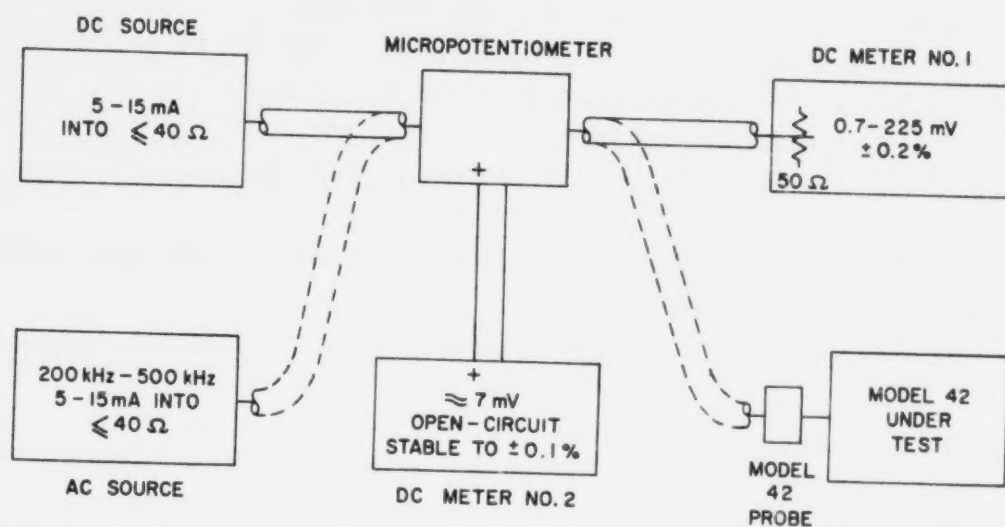
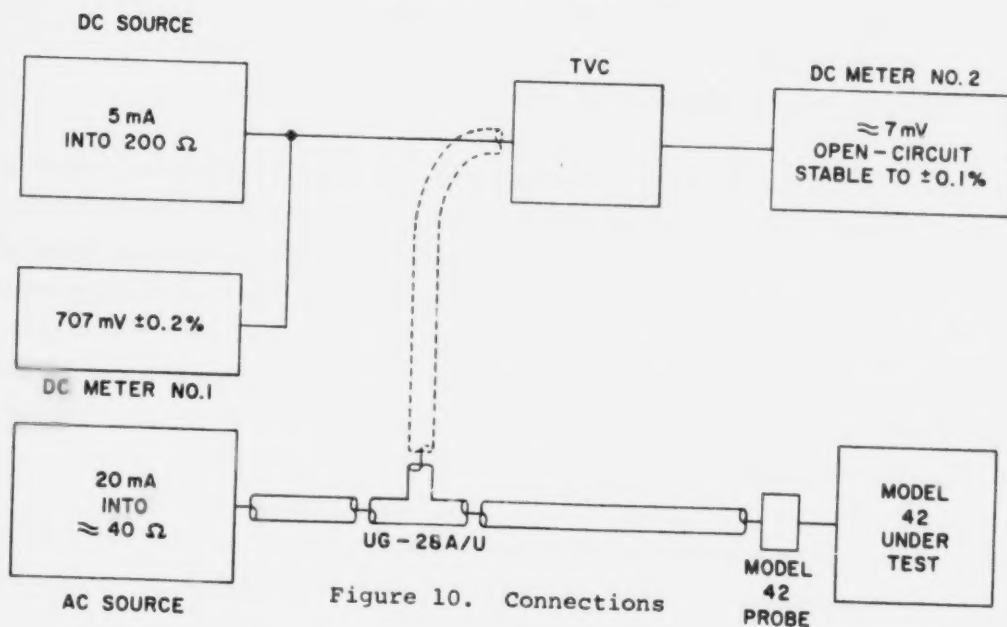

Figure 9. Connections
Figure 10. Connections
Because of the outstanding low-frequency response of the instrument (200 kHz as opposed to the usual 10 MHz of competitive instruments) it is convenient to check the performance by using voltage sources in the frequency range of 200 kHz to 1 MHz. In this range, there are commercial sources and reference standards available with the required accuracy. Figure 9 shows the suggested equipment and connections to check all ranges of the instrument, except the +10 dBm range; Figure 10 shows the suggested equipment and connections to check the +10 dBm range.
NOTE: The Boonton Model 25A Power Meter Calibrator can be substituted for the equipment shown in figures 9 and 10. This calibrator provides 1 MHz power levels from -69 to +20 dBm in 1 dB steps with 0.05 dB uncertainty. If the Model 25A Calibrator is used, disregard all references in paragraphs 5.4 and 5.5 to equivalent voltage levels; merely refer to specified power levels which then can be switch-selected on the Model 25A.
Each range is checked by connecting the Model 440 micropotentiometer (using the appropriate thermocouple and radial resistor) to the dc power source and dc meter No. 1 (Figure 9) and adjusting the dc power source until the dc meter No. 1 reads the voltage equivalent to the full-scale power for that range (refer to Table 2). Record the dc meter No. 1 reading. Now connect the micropotentiometer to the ac power source and the Model 42BD under test. Adjust the ac power source until the dc meter No. 2 indicates the same value as recorded for the dc meter No. 1. The RMS output voltage of the micropotentiometer is now equivalent to the recorded dc voltage. The Model 42BD should now read full scale within the specified tolerance ($\pm 5\%$ for the PWR mode; ± 0.2 dBm for the dBm mode). Perform the steps listed in Table 2 to check performance.
- a. Connect the instrument to test set-up as shown in Figure 10. Depress the 10 mW button of the FULL SCALE range selection.
- c. Connect the ac source to the ac source tee (UG-28A/U) as in Figure 10.
- a. Connect the instrument in a test set-up as shown in Figure 10. Depress the 10 mW button of the FULL SCALE range selector and inject an input of 707.1 mV.
- c. Remove the instrument from the Figure 10 test set-up and connect it to a test set-up as shown in Figure 9. Depress the 100 nW button of the FULL SCALE range selector and set the OFF/PWR/dBm switch to PWR.
- a. Connect the instrument to a test set-up as shown in Figure 9, depress the 1 mW button of the FULL SCALE range selector and inject an input of 223.6 mV (refer to Table 2, step 6).
- a. Connect the instrument in a test set-up as shown in Figure 9. Depress the 1 mW button of the FULL SCALE range selector, and inject an input of 223.6 mV (refer to Table 2, step 6).
Center the CAL FACTOR control knob on the shaft so that the pointer swings an equal amount past the scale end points on each end of the rotation. Depress the 1 μ W button of the FULL SCALE range selector, and set the CAL FACTOR control to -1 dBm. Using the ac source (Figure 9), adjust the input level until a display of 0.631 μ W or -32.00 dBm is obtained. Rotate the CAL FACTOR control to the +1 dBm position and adjust R573 on the shaping amplifier board, schematic E830592, for a display of 1.000 μ W or -30.00 dBm.